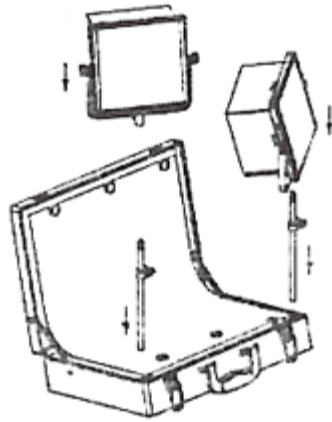

Fig. 4
- Insert the Mounting Pole into the Mounting Hole in the lower half of the Carrying Case. (Fig. 4).